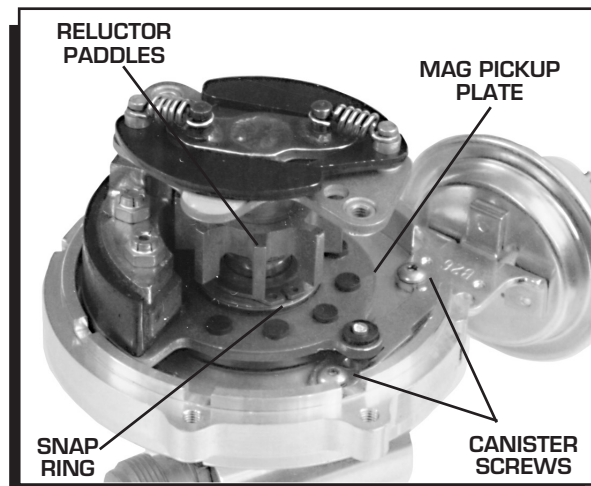

Figure 11 Removing the Vacuum Canister.
1. Remove the cap, rotor and aluminum spacer. Remove the two Allen head screws that hold the advance canister (Figure 11).